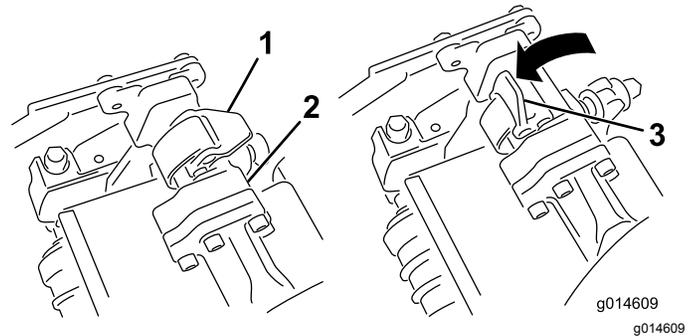
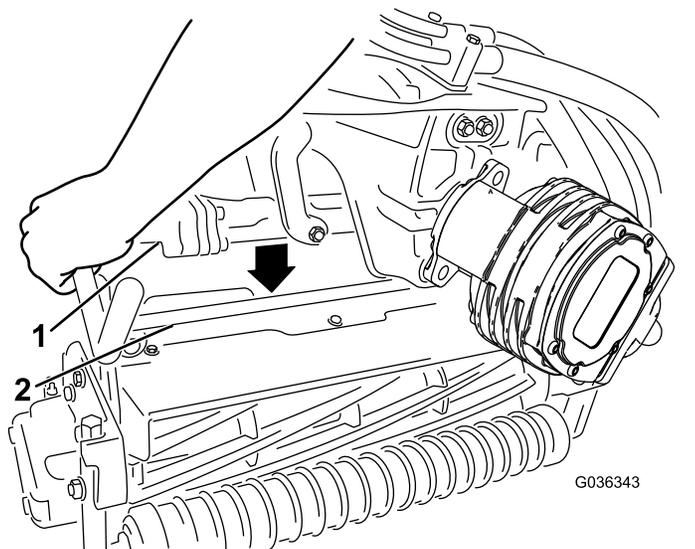

Figure 48
Figure 49
4. With the latches on the suspension-arm bar pointing up (i.e., open) (Figure 48), push the suspension arm down so that the bar fits over the bar across the top of the cutting unit (Figure 49).
- Close the latches down and around the cutting-unit bar and lock them in place (Figure 48).
5. Open the latches on the suspension-arm bar of the cutting unit you are removing (Figure 48).